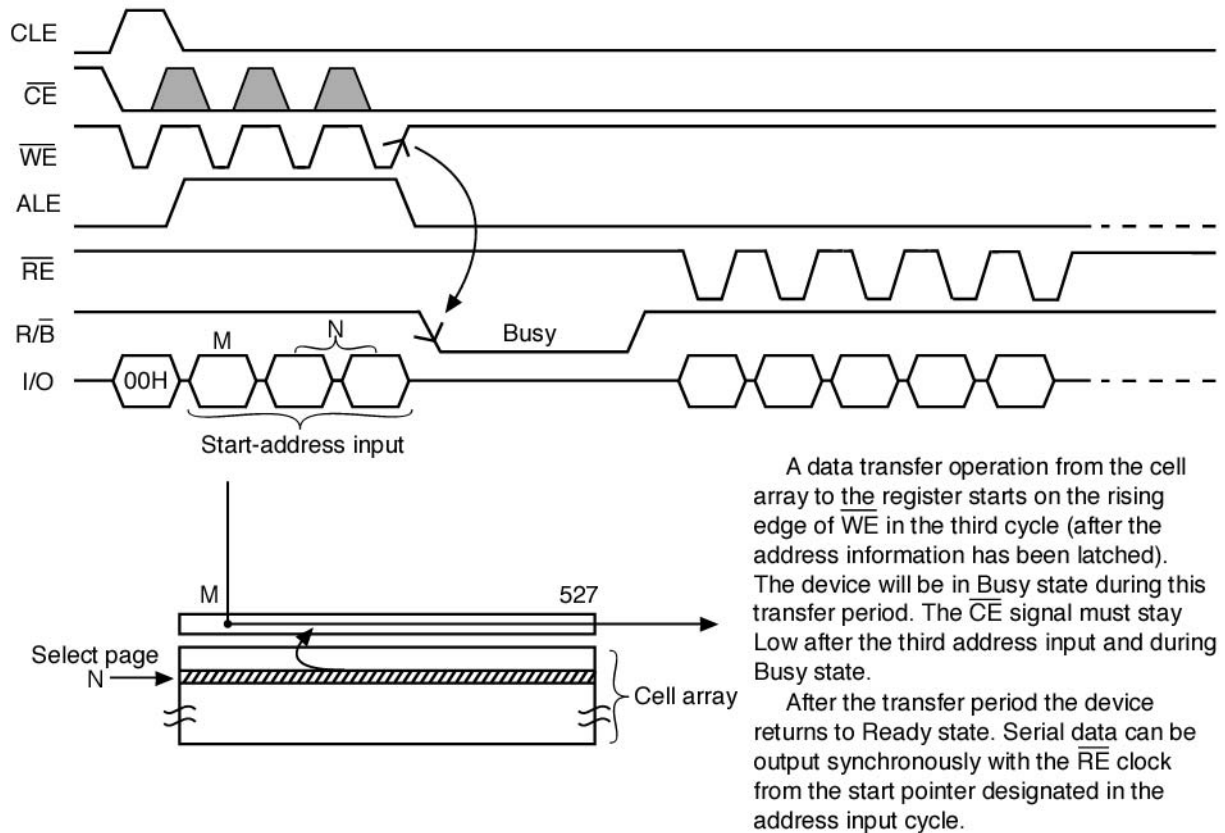

Figure 4-1 Read Mode (1) Operation
4.1 Read Mode (1)
Read Mode (1) is set when an 00H command is issued to the Command register. Refer to Figure 4-1 below for timing details and the block diagram.